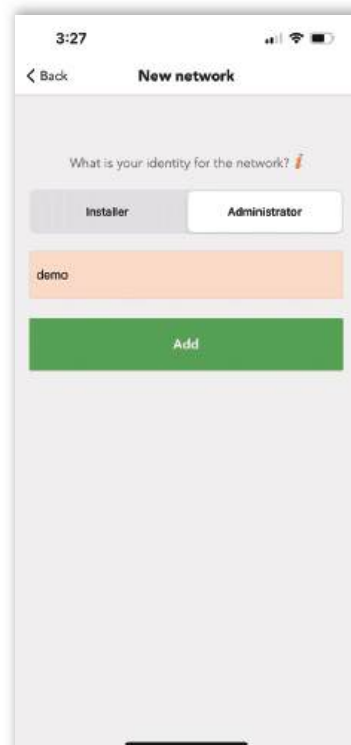

Figure 3.4 Add network
3. Select identity and "add". (see figure 3.4).